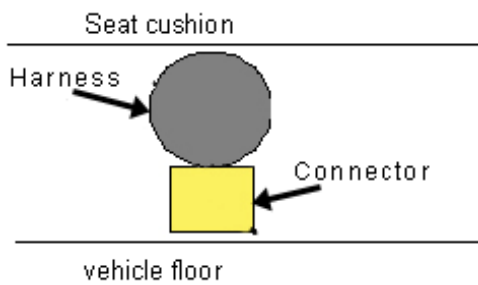

Figure 9c
10. Secure the SAB connector to the seat harness and metal rod as shown in Figure 9c and 10c.
- Make sure the connector is secured to the bottom of the harness as shown in Figure 9c.